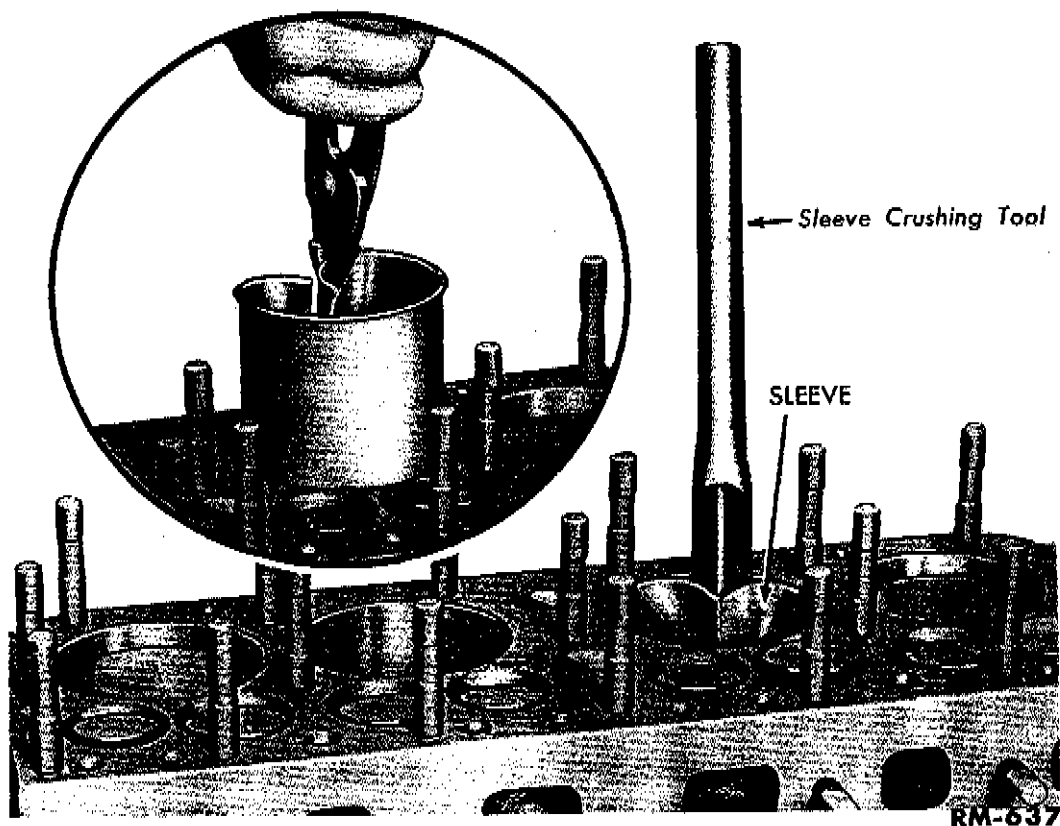
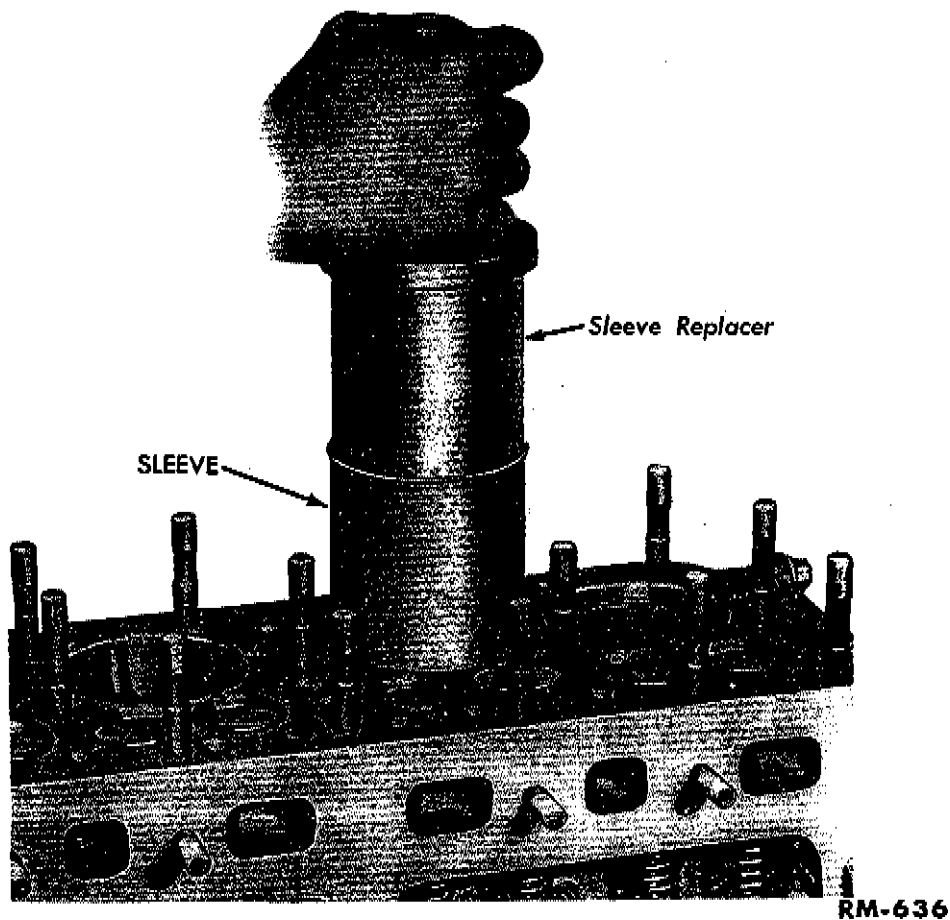

Fig. 14—Removing Cylinder Sleeve
Fig. 15—Installing Cylinder Sleeve
b. **Steel Sleeve Replacement.** Remove the sleeves from the cylinder block, using a crushing tool (fig. 14). Drive the tool all the way to the bottom of the cylinder, then pull the crushed sleeve out of the cylinder. Install new sleeves, using the replacer as shown in fig. 15. After the sleeves are installed, use a piston (without rings) or a plug gauge in the cylinder to determine if the sleeve was properly installed. If the piston or plug gauge has a tendency to stick, the sleeve was buckled during installation. Remove the damaged sleeve, install a new sleeve, and recheck it (fig. 15).